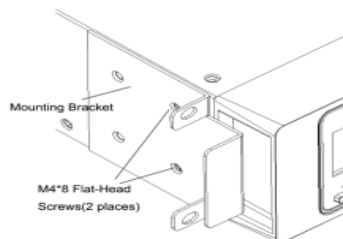

Figure 2 Installing the Mounting Brackets
- g) Align the mounting brackets with the screw holes on each side of the UPS and fix with the supplied M4x8 flat-head screws (see Figure 2)